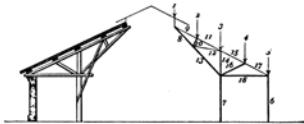

Fig. 9a.
44. Figure 9a\* represents one half of a locomotive shed. The external forces are the weights 1, 2, 3, 4, 5 applied at